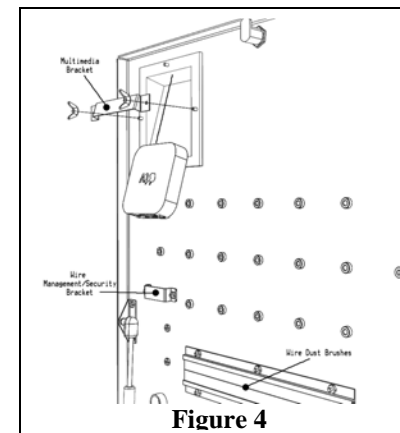

Figure 4
**Step 5 - (Optional)** Attach any multimedia devices such as the AppleTV™ and Roku™ with the bracket provided shown in Figure 4. A piece of foam (provided) should be placed between the multimedia device and the bracket to provide a secure fit and prevent any damage to the device. Cable(s) can be run through the wire management/security bracket and attached to the projector by running it out through the dust brush.